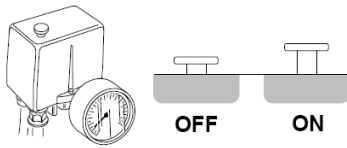

Fig. 7: Ready for operation
Make sure that the switch is in the “OFF” position (Fig. 7). Insert the plug into the socket and set the pressure switch switch to “ON” (Fig.7).
- To switch off the compressor, never pull the plug out of the socket, but always switch the switch on the pressure switch to the “OFF” position (Fig.7). This allows the compressed air contained in the head to be discharged and facilitates subsequent switching on. The correct operation of the compressor is indicated as follows: